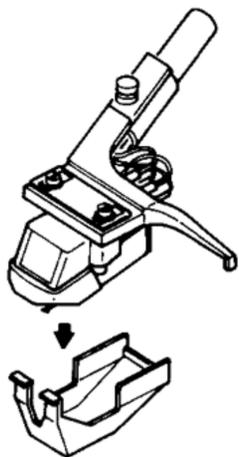

Fig. 3 Abb. 3
1. Remove the stylus cover from the stylus. (Fig. 3)